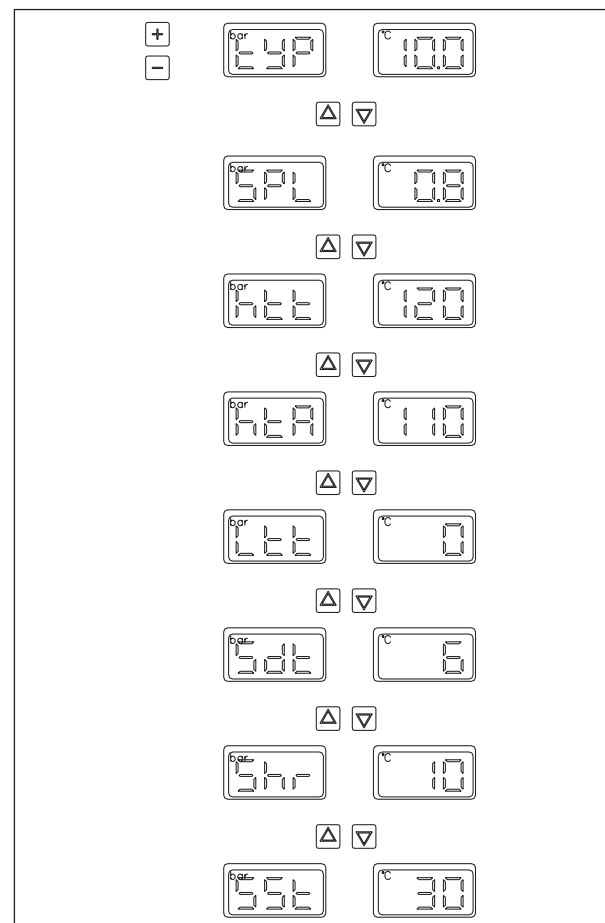

Fig. 28
**Annotation re fig. 28:****Field "bar" = pressure display**
The following are example settings in the previous figure (see fig. 28)